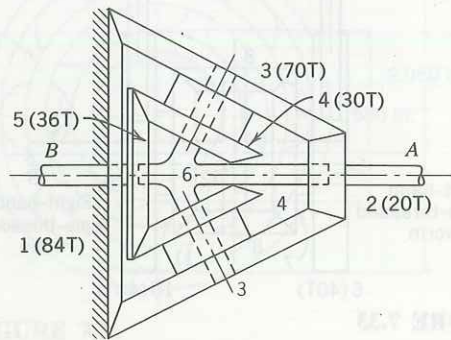

FIGURE 7.35
7.19. A mechanism known as Humpage's gear is shown in Fig. 7.35. Find the angular velocity ratio ω_A/ω_B .